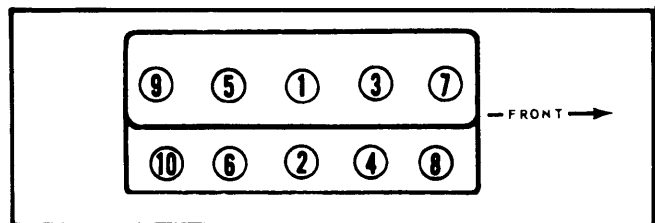

Fig. 1 Tightening Sequence for Intake Manifold
3) Place manifold in position on engine. Tighten bolts to specification in two steps. Tighten bolts in sequence shown in illustration (see Fig. 1). After completion of intake manifold installation, retighten manifold to specification in sequence shown in illustration, with engine at normal operating temperature.